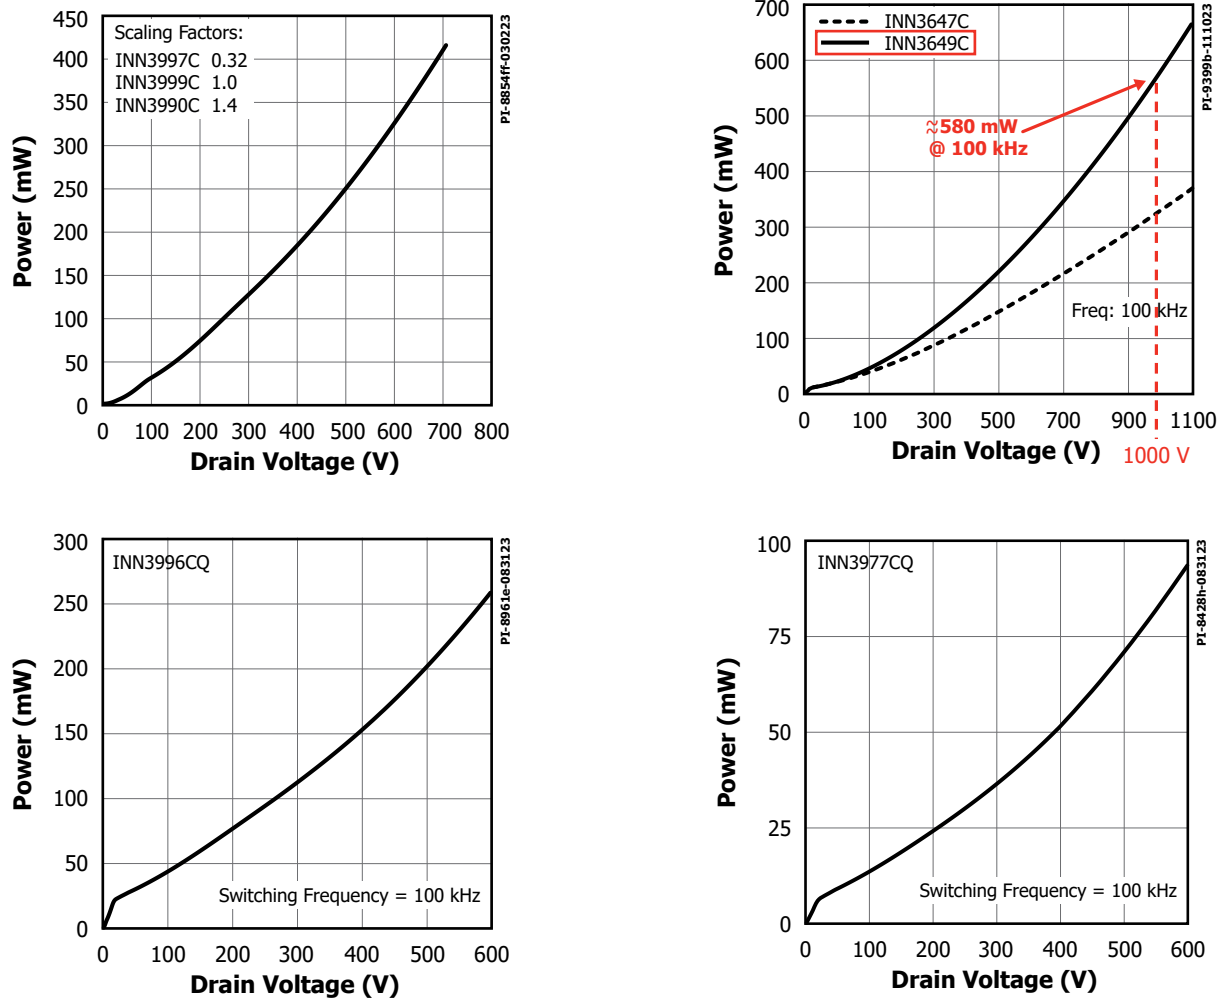

Figure 13. Drain Capacitance Power at 100 kHz for Various Devices from the InnoSwitch3-AQ Family of ICs.
The drain capacitance power curves shown in Figure 13 are for a switching frequency of 100 kHz. The switching loss for a specific operating point can be estimated by scaling the value from the plot according to the operating point switching frequency.
For the operating point in (1), the switching loss is found to be (see Figure 13)